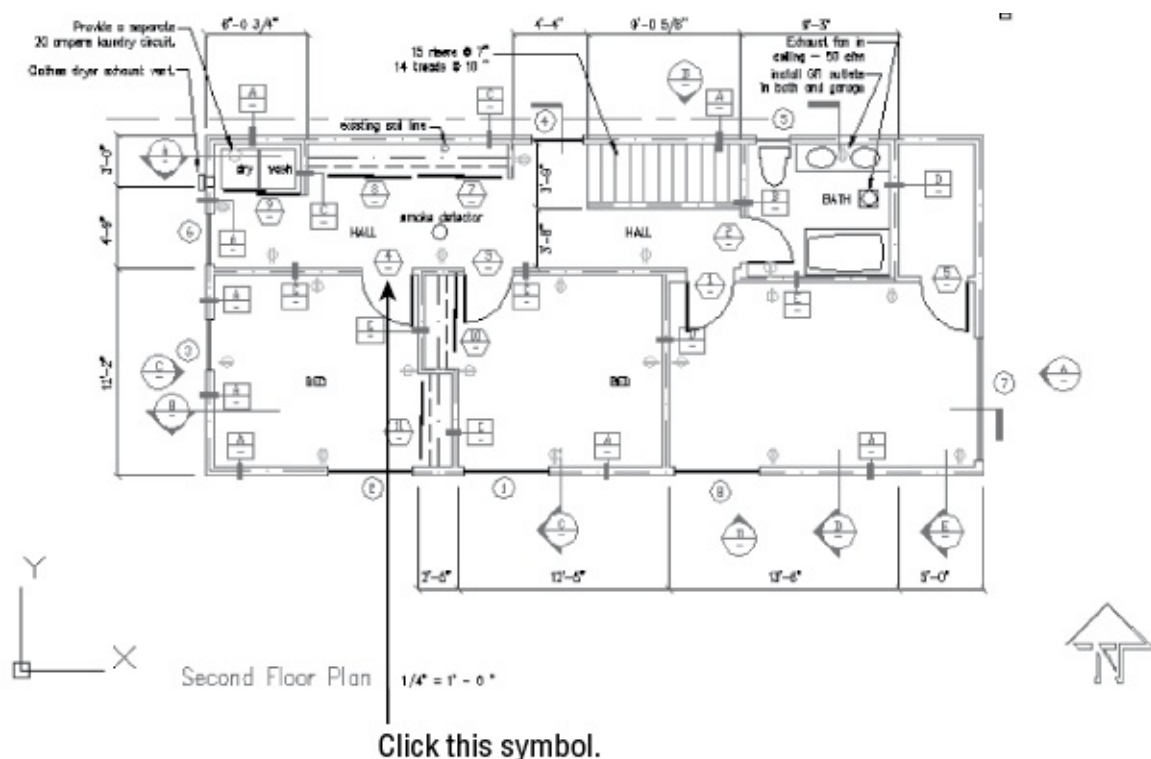

FIGURE 25.23 The door symbol in the houseplan.dwg file
3. At the `Select objects:` prompt, click the hexagonal door symbol, as shown in Figure 25.23.